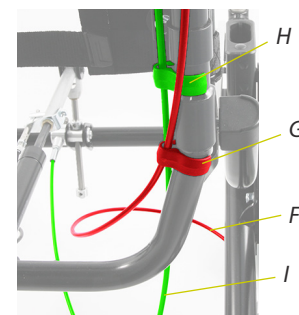

Fig 15
6. The brake cable (F, fig 15) is attached by a clip (G) below the back mounting plate. Figure 15 also shows how the clip (H) for the tilt-/recline cable (I) should be placed and how the two cables run in relation to each other. If a tiltable push bar is used the clips should switch places with each other. The brake cables should then also run behind the tilt-/recline cable as in figure 15.